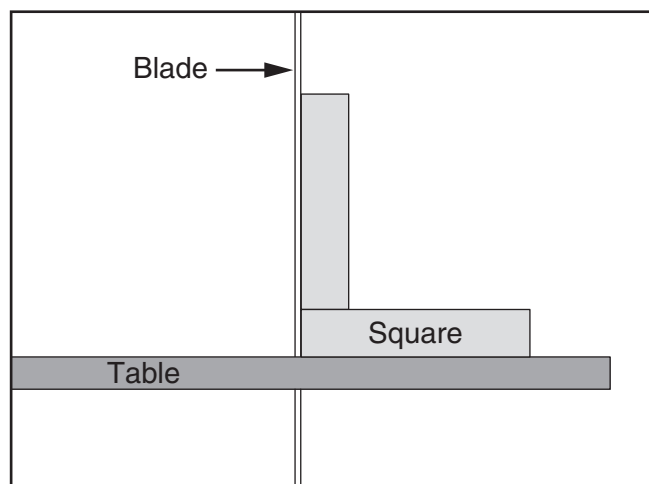

Figure 73. Squaring table to blade.
4. Place a machinist's square on the table next to the side of the blade as illustrated in **Figure 73**.